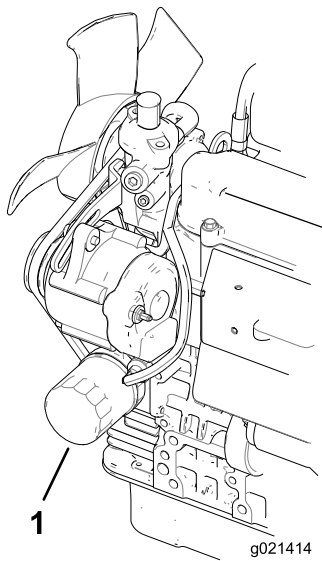

Figure 52
2. Remove the oil filter (Figure 52). Apply a light coat of clean oil to the new filter seal before screwing it on. Do not overtighten.